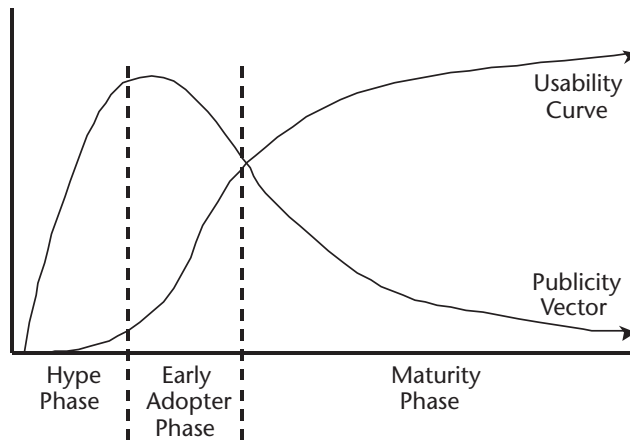

Figure 1.1 Usability versus publicity for new technologies. (After: [1].)
The article begins with the observation that when any significant new technology appears on the scene, it receives widespread publicity in the information technology (IT) arena. This attention could be displayed graphically [see Figure 1.1] in a publicity vector measured by such attributes as the number of articles on the technology in the trade press, the frequency of conferences on the topic, how many industry analysts discuss the technology, to what degree vendor sales pieces and ads employ the technology's terminology, and similar measurements. This curve initially rises steeply, but the high degree of publicity received by the technology is completely disproportionate to the usability of the technology and the number of people and organizations doing anything more than just talking about it. However, if the new technology takes hold and becomes widely used, as depicted by the rising usability curve, it seems to fall off the collective radar screen of the various publicity machines, and the publicity vector moves back toward zero.